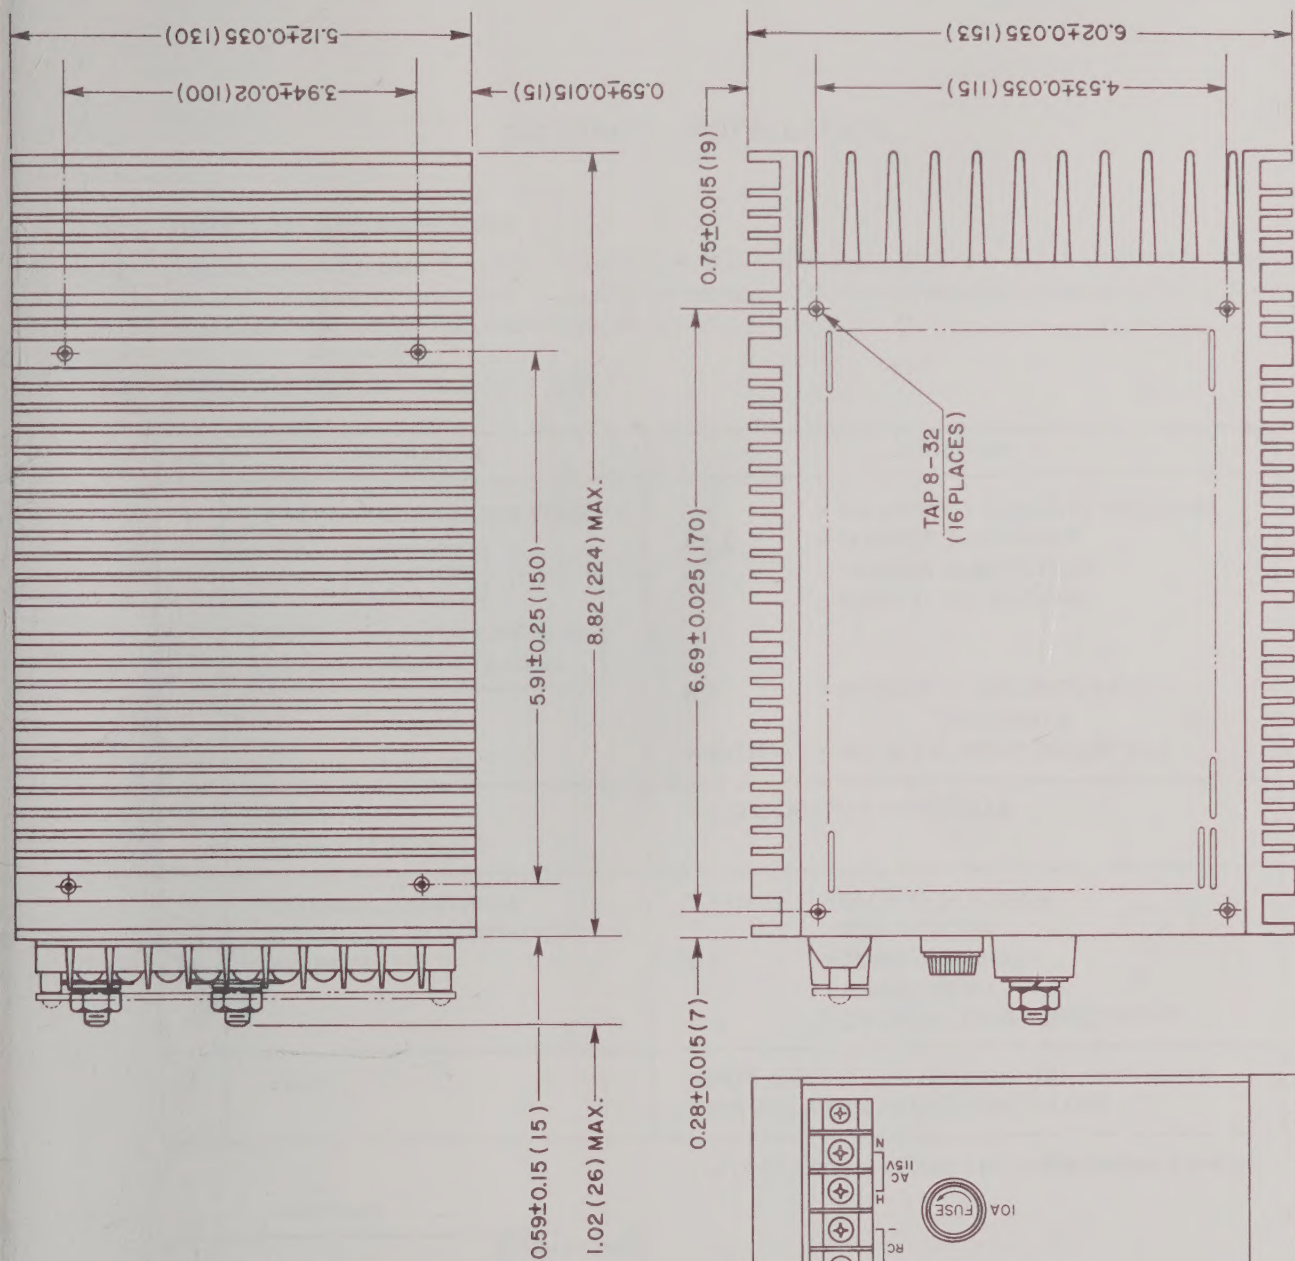

FIG. 1-4 MECHANICAL OUTLINE DRAWING, KEPCO RMK-D SERIES
- 1-5 RMK-D power supplies are identical in mechanical and electrical construction except for their output ratings, as noted in Table 1-1. RMK-D Series power supplies are completely enclosed in an aluminum case which functions as a heat sink (See Mechanical Outline Drawing, FIG. 1-4 for dimensions and finish). Removable top and bottom covers and single P-C board construction provide ready access to all components.
- T) DIMENSIONS: See outline diagram, FIG. 1-4.